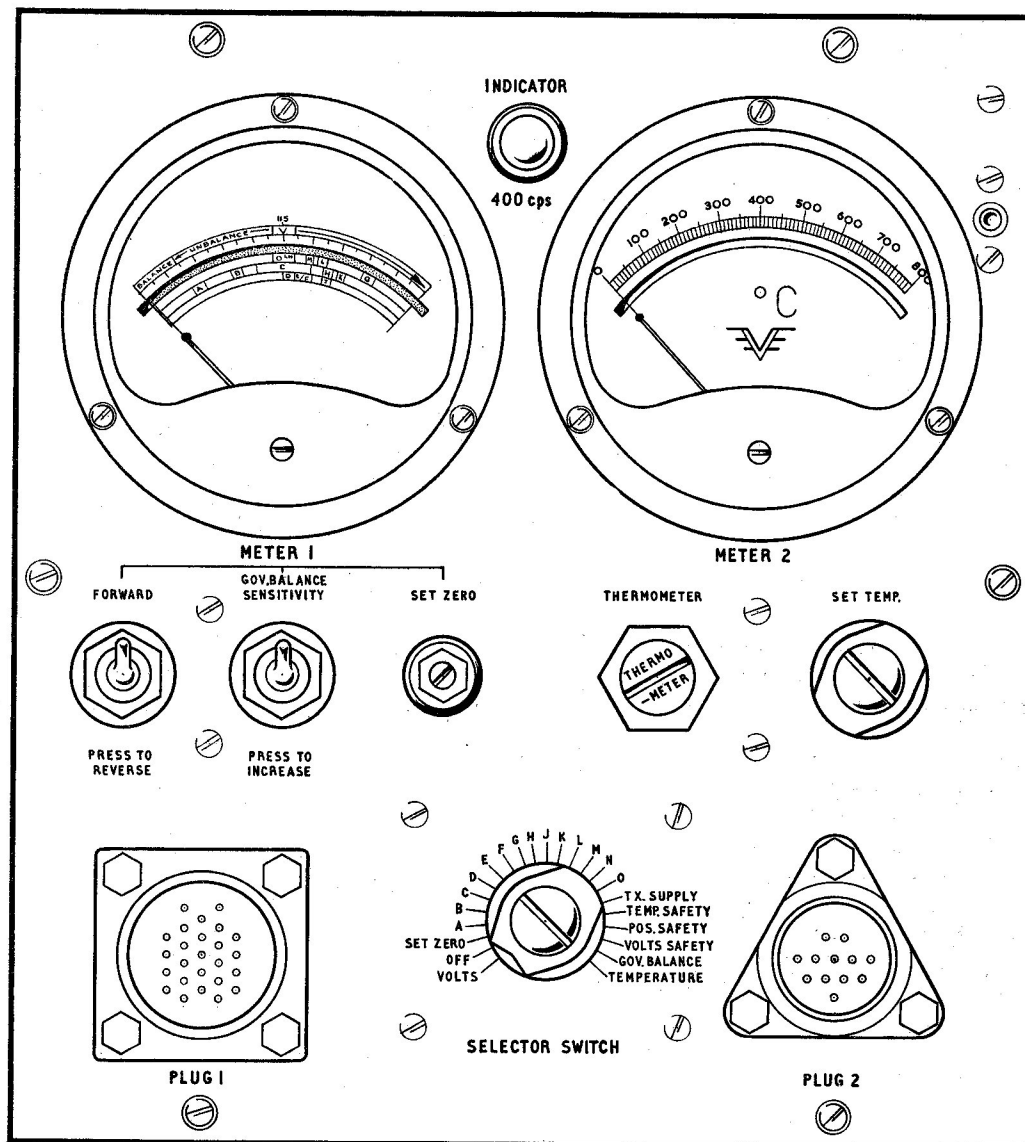

Fig. 2. Test set QT4002—front panel
10. The test set controls are illustrated in fig. 2 and 6 and are as follows:—
- (1) Switches (fig. 2):
- (2) External potentiometer controls (fig. 2):